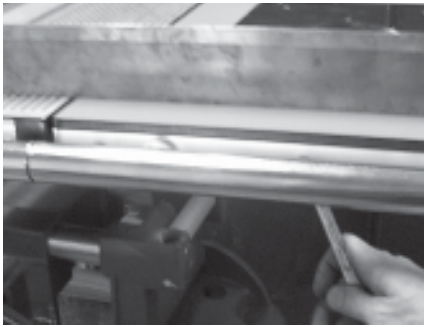

Figure 5
2. To adjust the Router Table parallel to the Saw Table, loosen the Keps Nuts (6) that hold the Table Tube (3) to the Router Table. (See Figure 5)